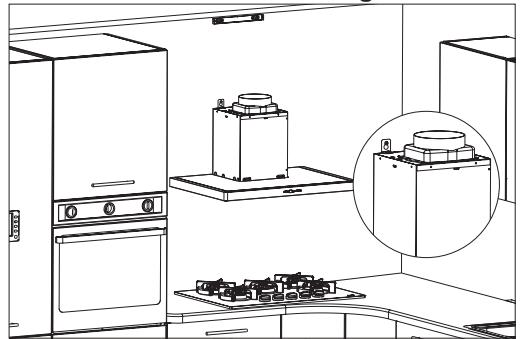

Figure 8
Hold the hood from its body and suspend it to the wall on A and B points using the (L) plates you have fixed on the hood cabinet before. **Figure 8**